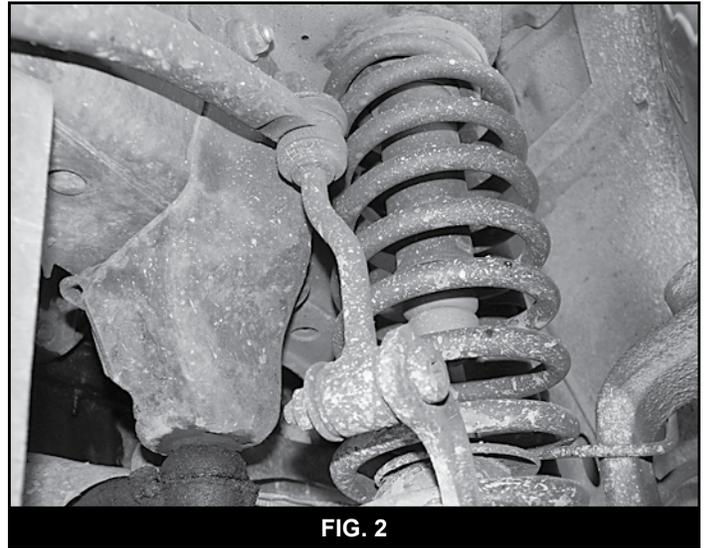

FIG. 2
7. Remove the upper mounting nut from the sway bar links (Figure 2). Swing the sway bar up off of the links. Save all hardware/bushings.